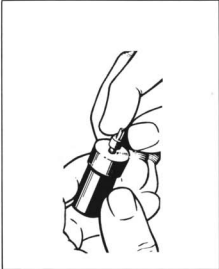

FIGURE 3-55. SLIDE TEST
2. Insert valve in nozzle body, Figure 3-55.